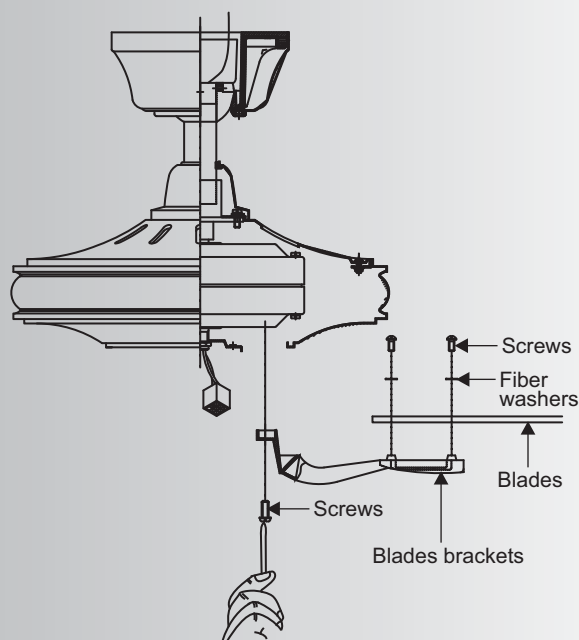

Fig. 14
Step 1. Attach a blade to a blade bracket using the screws and fiber washers provided. (Fig.14)
Step 2. Attach each blade assembly to the motor using the "Pre-Installed" mounting screws in the blade bracket. (Fig 14)